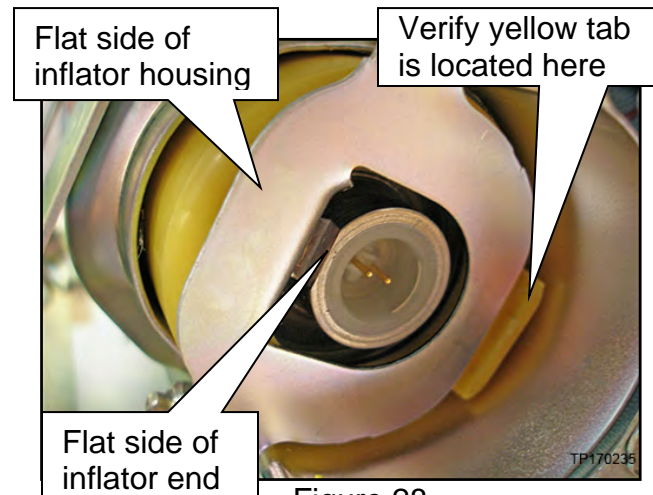

Figure 28
32. Make sure the inflator is positioned / oriented correctly, as shown in Figure 28.
- When the inflator is properly oriented, the yellow tab will be in the position shown in Figure 28.